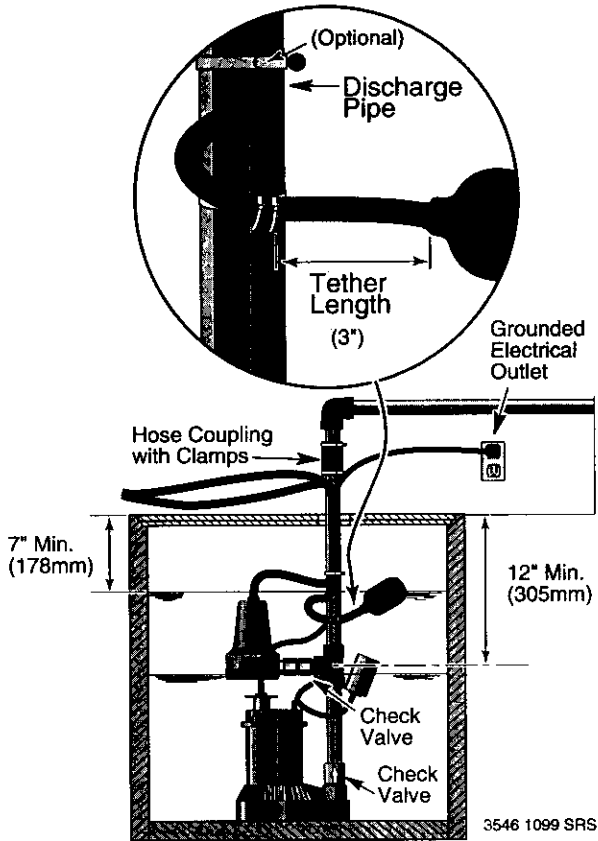

Figure 3 – Double pump and float switch installation
8. Mount the float switch assembly (Key No. 9, Page 9) loosely to the discharge pipe with the cable ties (Key Nos. 9A & 9B, Page 9). Approximately 3" (76mm) of cord length should be left between the float and the clamp. Adjustments may be needed, do not tighten the cable ties. See Figure 3, Page 5.
1. Connect the pump discharge pipe to the exterior discharge pipe with the rubber coupling and clamp kit (Key No. 2, Page 9). Do not tighten the clamps until all the final adjustments are complete. See Figure 3.
1. The tether length too short on automatic float switch. Make sure that tether is at least 3" (76mm); see Figure 3, Page 5.